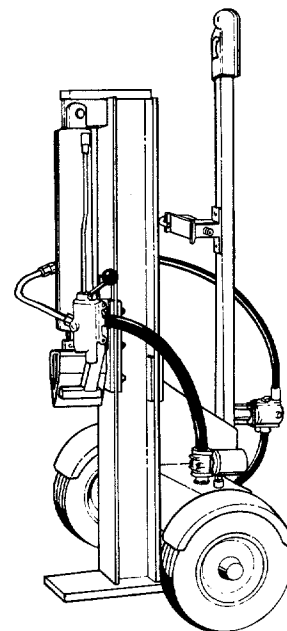

FIGURE 18.
6. The tongue can be removed and reattached in an upright position as shown in figure 18 to take less space when storing.